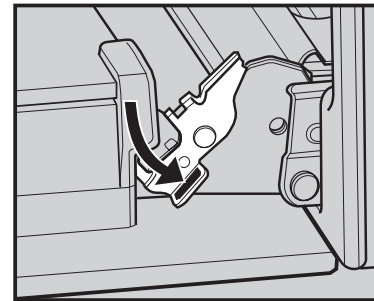

Figure 23: Door hinge lock
2. Push down the hinge locking tab on both sides of door (figure 23).
4. Push the door hinge locks up, to their normal position on both left and right sides of door (Figure 23).